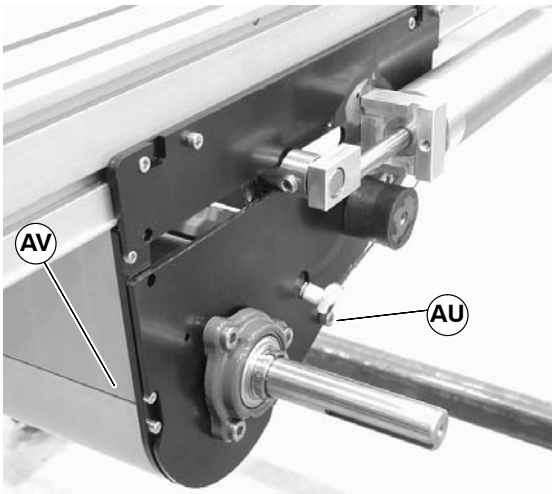

Figure 23
6. Temporarily support the tensioning roller guard (AV of figure 23). Remove screws (AU of Figure 23) on both sides of center drive and remove tensioning roller guard (AV of Figure 23 and 24).